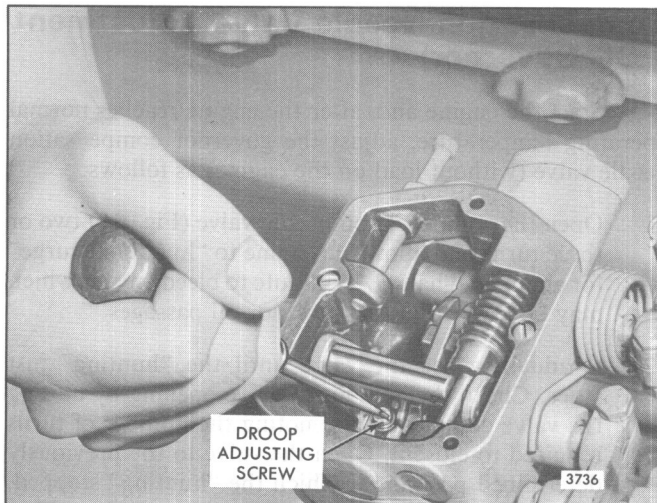

Fig. 7 – Adjusting Speed Droop
4. Loosen the screw and move the bracket so that the screw is midway between the ends of the slot in the bracket. Tighten the screw (Fig. 7).